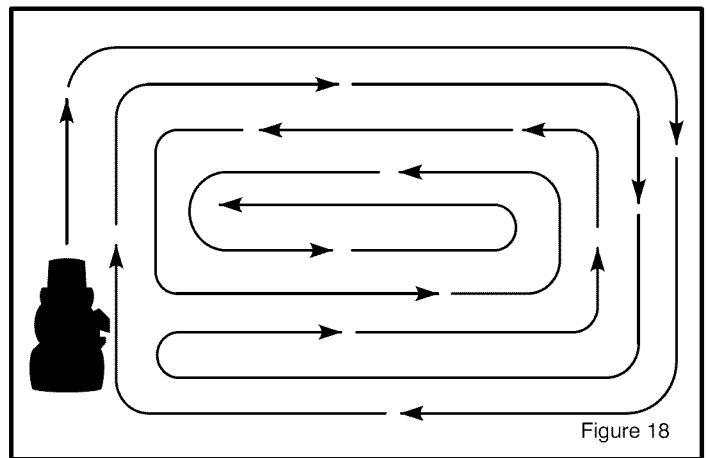

Figure 18
8. When you mow large areas, start by turning to the right so that the cut grass will discharge away from shrubs, fences, driveways, etc. After one or two rounds, mow in the opposite direction making left turns until finished (Figure 18).